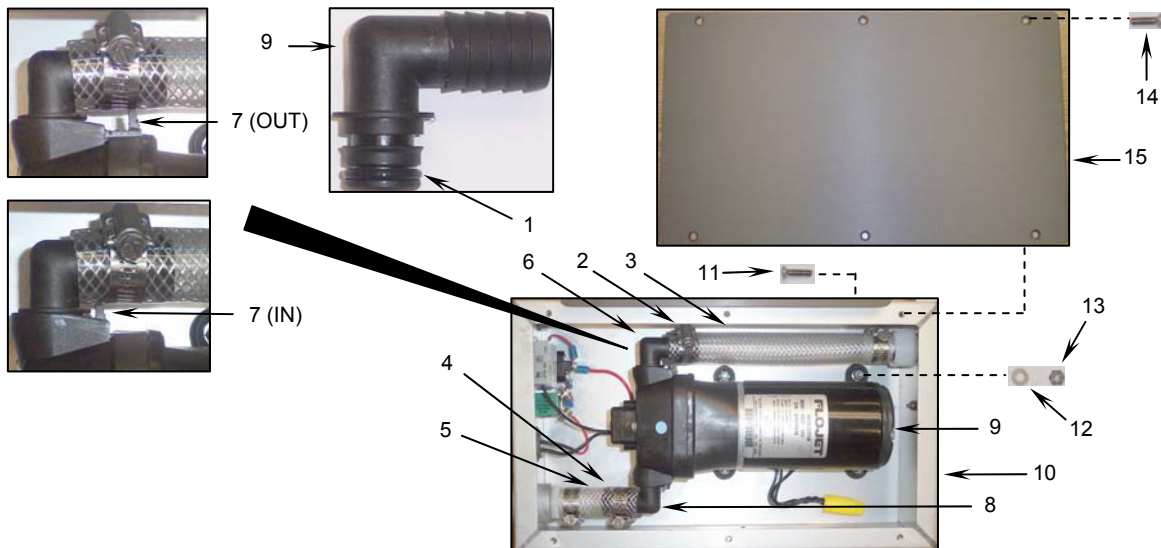

Figure 4. Installing the Sink Fill Pump Assembly Quick Disconnect Elbows.
- a. Ensure that an O-ring (**Figure 4, Item 1**) is in place on both of the new elbow adapters.
- b. Ensure that the loosened hose clamp (**Figure 4, Item 2**) is on the suction tube (**Figure 4, Item 3**).
- c. Push the ribbed end of one of the elbow adapters into the suction tube (**Figure 4, Item 3**).
- d. Slide the hose clamp (**Figure 4, Item 2**) over the tube and adapter end and tighten.
- e. Ensure that the loosened hose clamp (**Figure 4, Item 4**) is on the discharge tube (**Figure 4, Item 5**).
- f. Push the ribbed end of a second elbow adapter into the discharge tube (**Figure 4, Item 5**).
- g. Slide the hose clamp (**Figure 4, Item 4**) over the tube and adapter end and tighten.
- h. Ensure that an O-ring (**Figure 4, Item 1**) is in place on the suction elbow (**Figure 4, Item 6**), then slide out the pump suction elbow retaining tab (**Figure 4, Item 7**) and insert the pump suction elbow into the pump. Push the retaining tab all the way in.
- i. Ensure that an O-ring (**Figure 4, Item 1**) is in place on the discharge elbow (**Figure 4, Item 8**), then slide out the pump suction elbow retaining tab (**Figure 4, Item 7**) and insert the pump discharge elbow into the pump. Push the retaining tab all the way in.
- j. Position the pump (**Figure 4, Item 9**) in the enclosure (**Figure 4, Item 10**) and secure with the four flat head machine screws (**Figure 4, Item 11**), four flat washers (**Figure 4, Item 12**), and four self-locking nuts (**Figure 4, Item 13**).
- k. Apply sealing compound to the six flat head machine screws (**Figure 4, Item 14**). Secure the cover (**Figure 4, Item 15**) to the enclosure (**Figure 4, Item 10**) using the six screws.